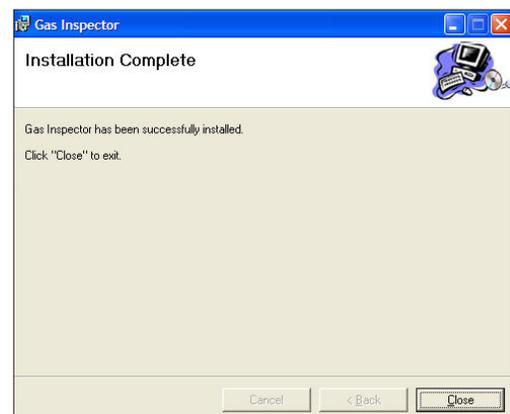

Figure 9—Installation Complete Window
- When the installation is complete, a confirmation window will appear (Figure 9). Click *Close* to end the installation process.